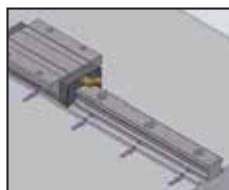

Fig 1.11.9 Tightening Set Screws
(C) Tighten the Linear Guide rail set screws in sequence, until they lightly contact the rail-mounting side surface (Fig 1.11.9).